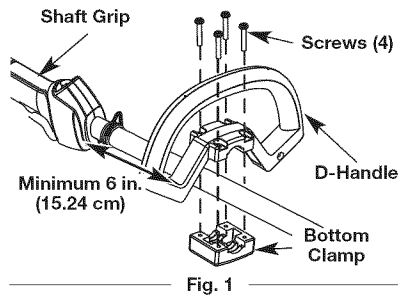

Fig. 1
1. Place D-handle over the shaft housing and onto the bottom clamp (Fig. 1). Place it a minimum of 6 inches (15.24 cm) from the end of the shaft grip.